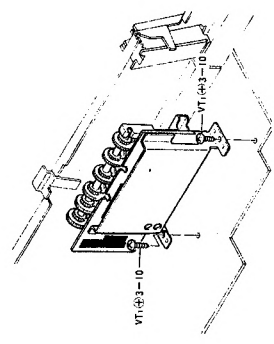

Fig. 8
- 1) Remove 2 screws. (Refer to Fig. 8)